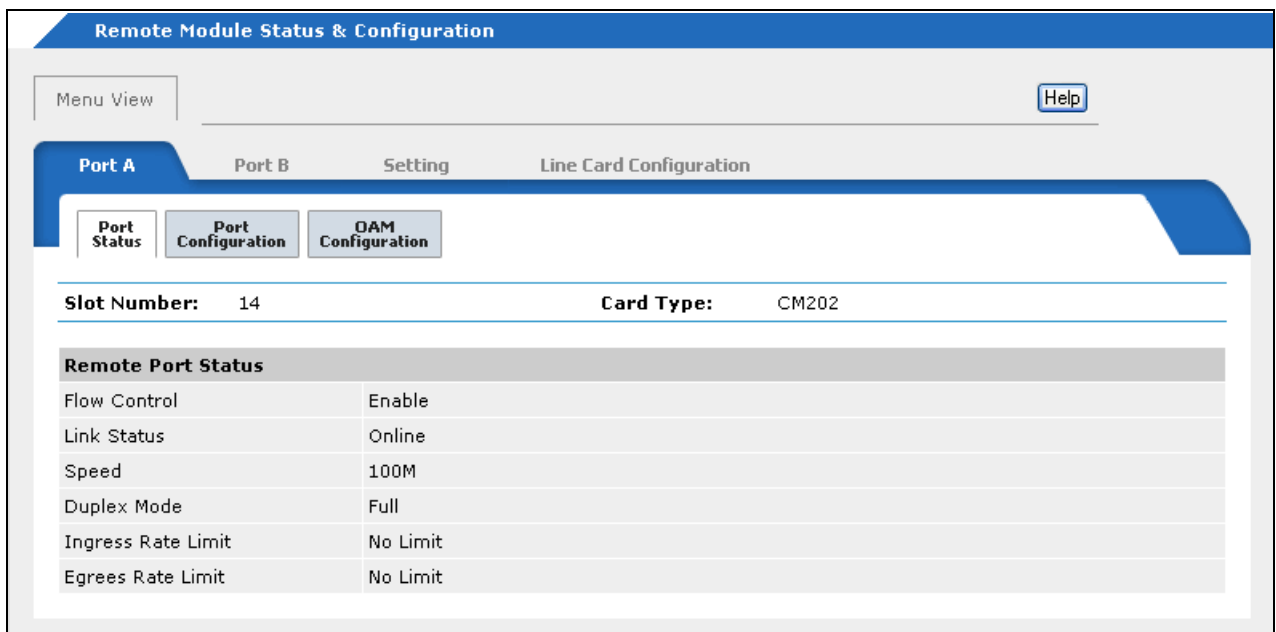

Figure 79. Remote Module Status & Configuration Page
- To configure a remote line card, click the model name of its local line card counterpart to display the Remote Module Status & Configuration page, shown in Figure 79.